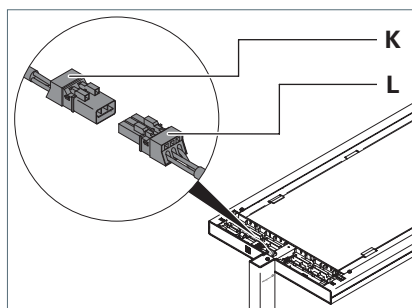

Fig. 5: Connecting the luminaire head, part 2.
- Connect the socket **L** to the connector **K** in the luminaire head, see Fig. 5.